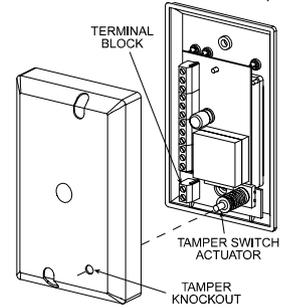

Fig. 4. Tamper Switch Installation
- B. To protect the CL-8A if tampering is attempted by removing the unit from the wall or by removing the front of the case. This is accomplished by opening the tamper knockout in the back box, allowing the tamper actuator to extend out of the back box and contact the wall (see Fig. 4).